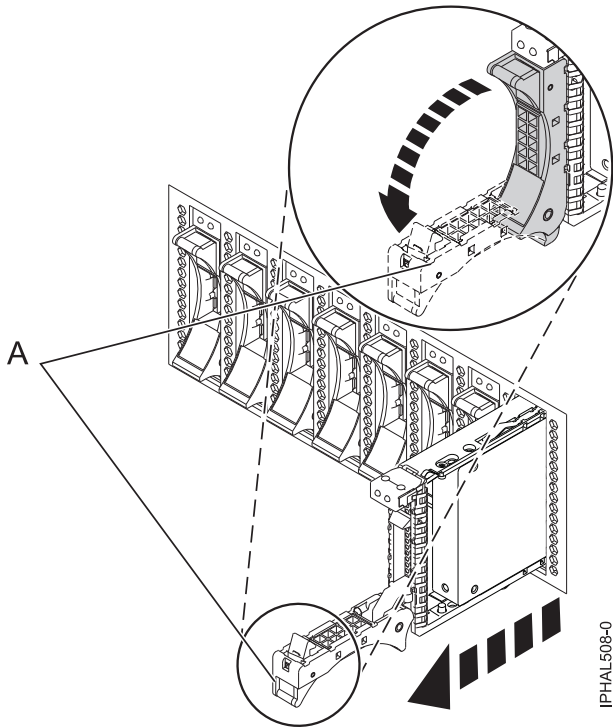

Figure 16. Removing the disk drive from the 2.5 inch small-form disk drive backplane
- 1) Unlock the disk drive handle (A) and pull it toward you to unseat the disk drive.
- 2) Place one hand under the disk drive and carefully pull the drive out of the system as shown in Figure 16.